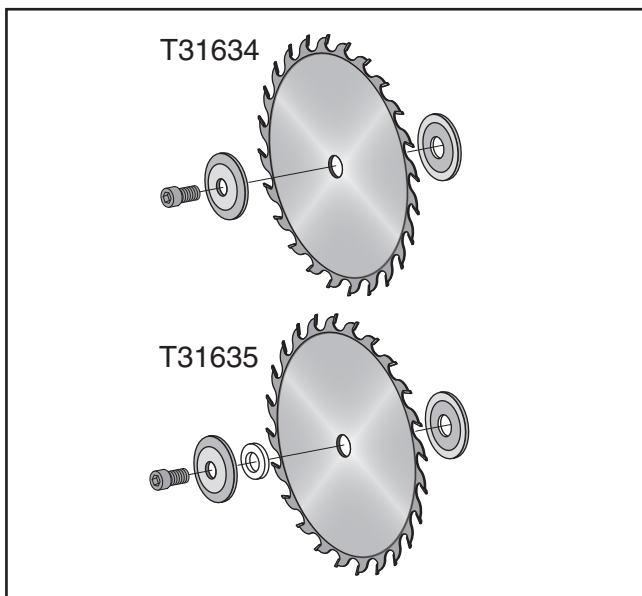

Figure 34. Correct order of installation with teeth facing the correct direction.
7. Install new blade and secure with flange and arbor bolt on arbor, as shown in **Figure 34**. Note that the reducer bushing for the T31635 must be installed before the flange and arbor bolt.